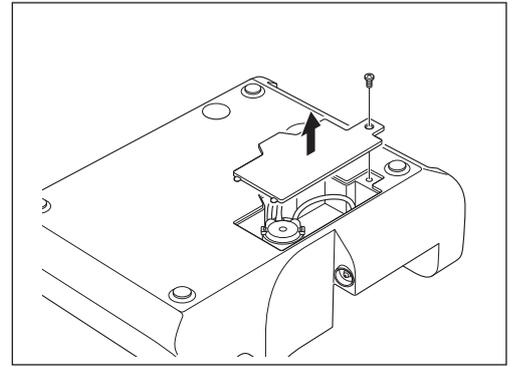

Fig. 50
- 2) Turn over the Control Unit. Use a cross-head screwdriver to remove the screw on the Irrigation Pump Cover and remove the Cover. (Fig. 50).